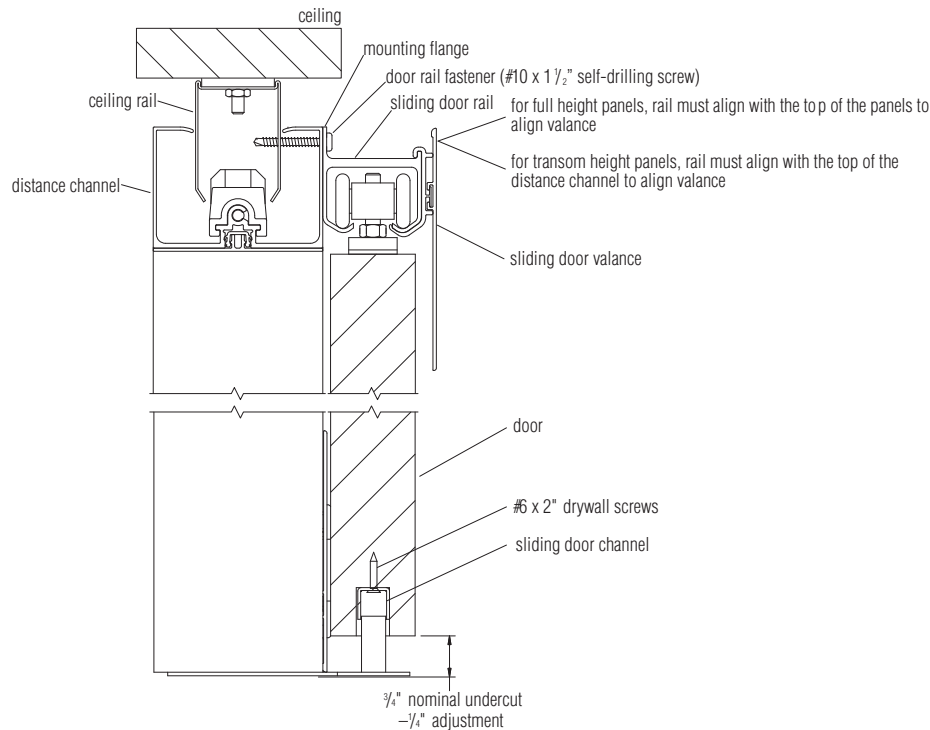

Figure 9
11. Screw sliding door channel into bottom groove of door leaf with #6 x 2" drywall screws, if not factory installed (Figure 9).